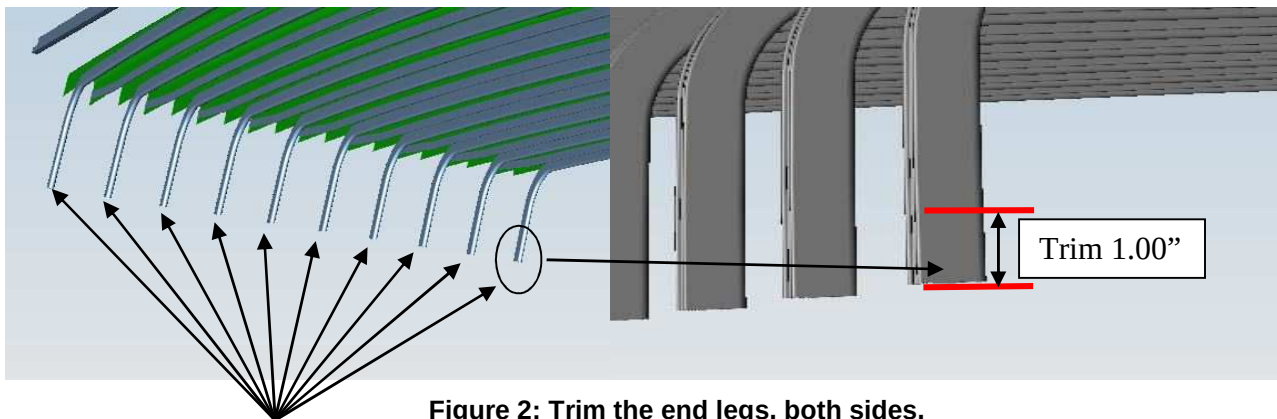

Figure 2: Trim the end legs, both sides.
2. Trim 1.00" off all the end legs as shown in figure 2. Remove burrs.